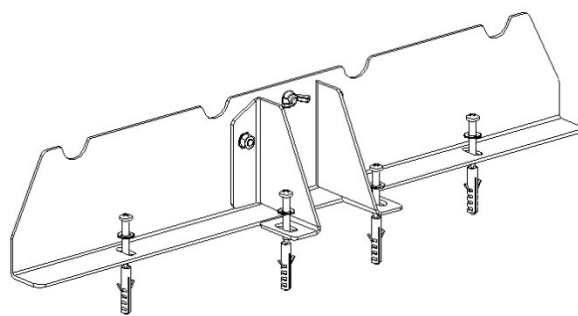

Figure 5
c) Mark the center of the Front Support and drill using a $\text{Ø}6\text{mm}$ Wídea (Concrete) drill bit. Secure it with the plugs and screws (included) as shown in Figure 5.